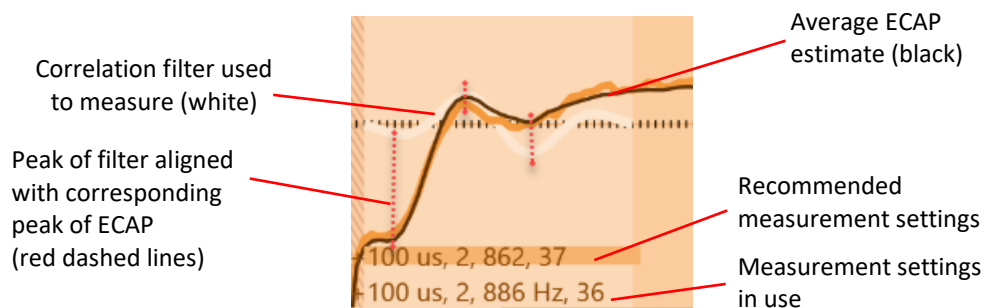
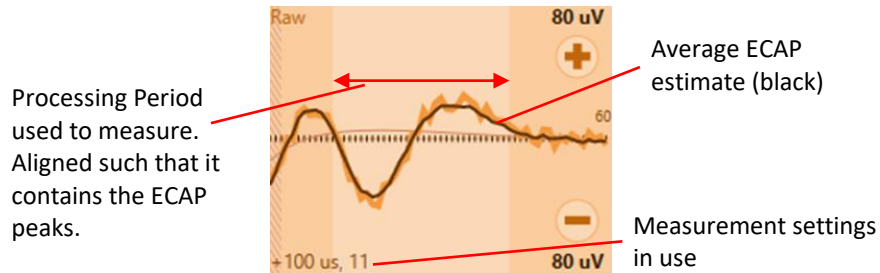

Figure 6.16: ECAP display with a well matched filter (-).
Figure 6.17: ECAP display with a well matched amplitude measurement.
8. Ensure the applied measurement settings match the recommended measurement settings (Figure 6.16), and check that the peaks of the ECAP signal line up with the peaks of the correlation filter. If they don't, you may manually adjust Processing Offset and Filter Frequency until they do (see Section 8.2).
Note: The default filter has a negative first peak (see Figure 6.16). In some cases filter alignment may be improved by flipping the filter the first peak is positive. This is done by changing the measurement setup to 'FBV calculated using filter (+)' from the Measurement Setup options (see Section 8.2). See Section 6.10.1 for other ECAP measurement options.
within the Processing Period (see Section 8.2) and there will be no recommended measurement settings (see Figure 6.17). For this option, closed-loop may be enabled, and stimulation frequency is available up to 250Hz.
Note: This option should only be used with closed-loop enabled where the peak-to-peak amplitude is not affected by artefact (e.g. Figure 6.17).
The number of samples of the signal to record (see Section 8.2). The Sampling Period (default 3662 μ s) must be greater than or equal to the Processing Offset plus the Processing Period. Consider increasing this if the ECAP signal cannot be optimally measured (i.e. the filter cannot be optimally aligned and/or the complete ECAP signal cannot be seen in the ECAP display) – refer to Figure 6.16 and Figure 6.17 for optimal measurement examples.
The amount of time for the system to wait, following the stimulus pulse, before recording the signal (see Section 8.6). Consider increasing this from default (100 μ s) if the Processing Offset cannot be increased enough for optimal measurement of the ECAP (refer to Figure 6.16 and Figure 6.17 for optimal alignment examples).